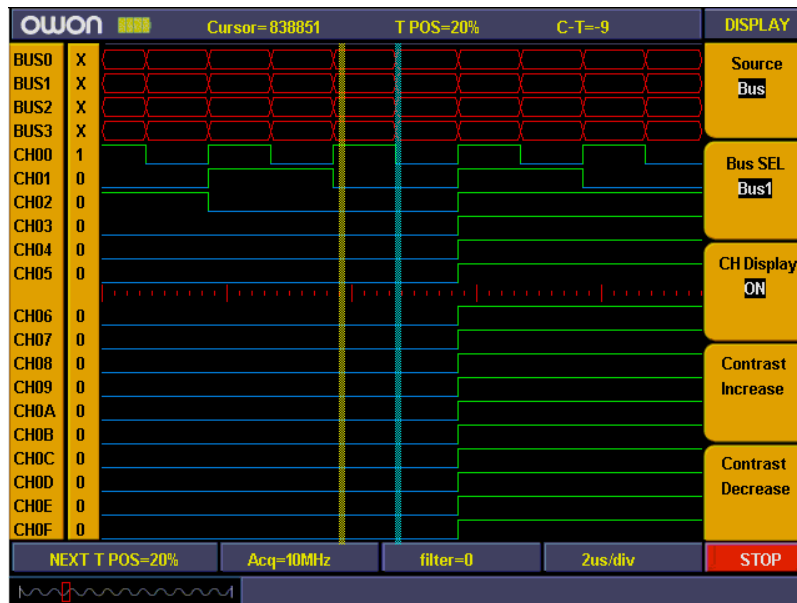

Fig.4-14
- 7、 Press "**F3**" and set signal sources as "**OFF**". Repeat operation of steps 6.7 and set BUS1、BUS2、BUS3 all as "**OFF**". Ref to Fig.4-14.